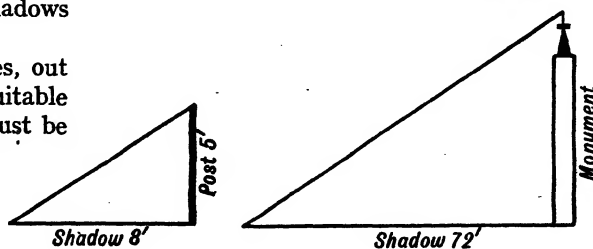

FIG. 85. FINDING HEIGHT BY USING THE TANGENT OF AN ANGLE
**II. Use of a tangent.**—The children use the sun shadow method for finding the height of a tall building, monument, post or tree, as described in Section XII, but they use the tangent of the angle in calculation instead of making a scale drawing, Fig. 85.